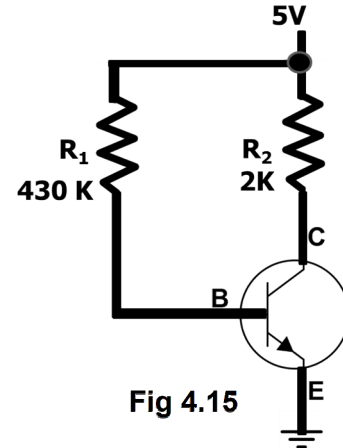

Fig 4.15
**Problem 4.7:** Calculate two Q points for the base bias circuit shown in fig 4.15, when  $h_{FE} = 50$  and  $h_{FE} = 100$ . Assume Silicon transistor.  $V_{BE} = 0.7 \text{ V}$  (Si).